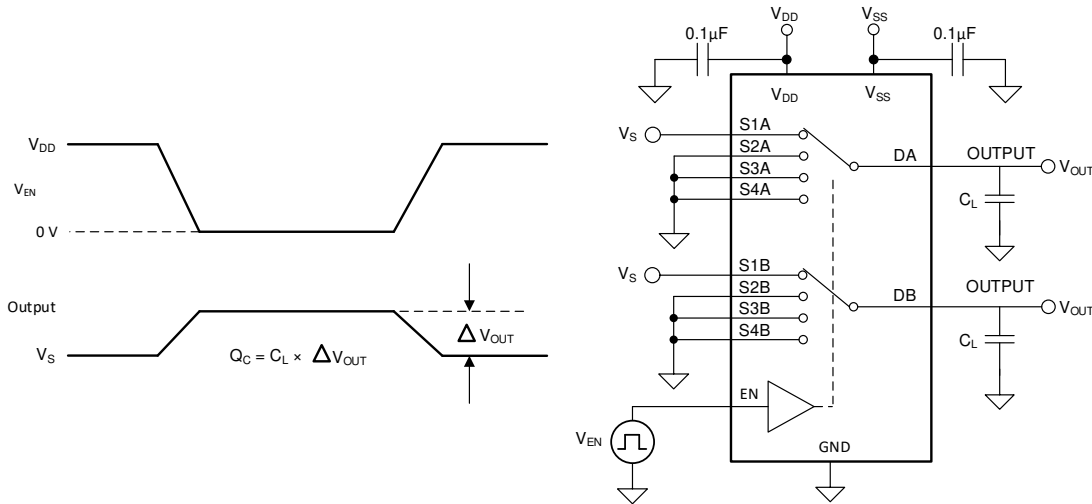

图 6-7. Charge-Injection Measurement Setup
The TMUX1109 has a transmission-gate topology. Any mismatch in capacitance between the NMOS and PMOS transistors results in a charge injected into the drain or source during the falling or rising edge of the gate signal. The amount of charge injected into the source or drain of the device is known as charge injection, and is denoted by the symbol Q_C . 图 6-7 shows the setup used to measure charge injection from source (Sx) to drain (D).